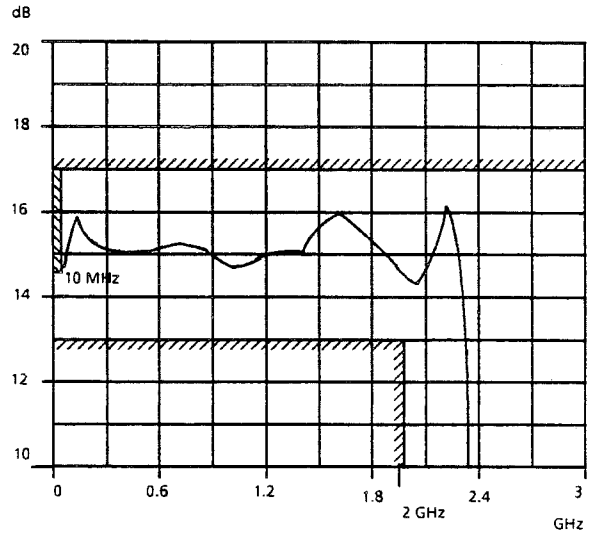

Fig. 5-4 $|S_{21}|$ Typical curve and tolerance field
- Check $|S_{21}|$ and $|S_{11}|$ according to Figs. 5-4 and 5-5.